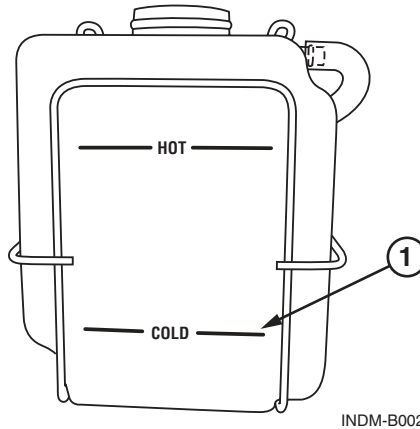

Figure 7.7 – Overflow Tank
1. Check the level of the coolant in the coolant recovery tank. The coolant level with a cold engine should be approximately 1/3 of the coolant tank capacity. (Figure 7.7) Use an anti-freeze tester suitable for measuring the strength of propylene glycol anti freeze to test the strength of the mixture.